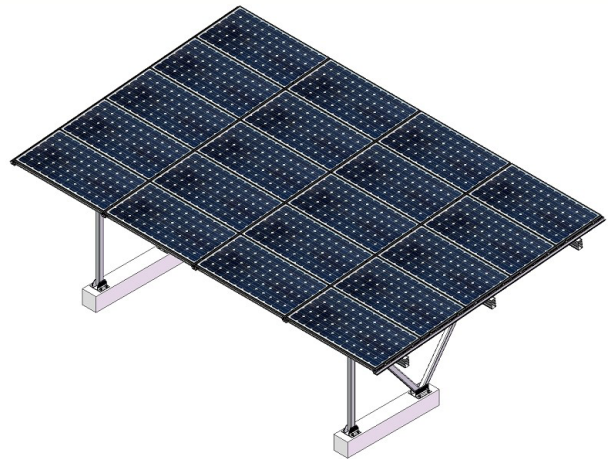

Figure 29
5.6.7 After the installation is completed, check to ensure all bolts are locked, and the installation is complete as shown in Figure 29.